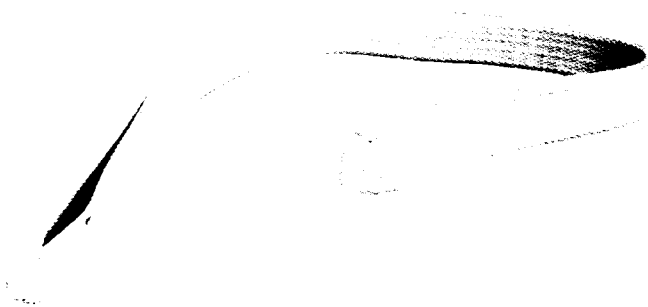

Fig. 1 — C Fabric Sling
2.01 The C Fabric Sling (Fig. 1) consists of an endless nylon webbing sling. Available in three standard lengths, the sling is especially suited for use at joint use poles.